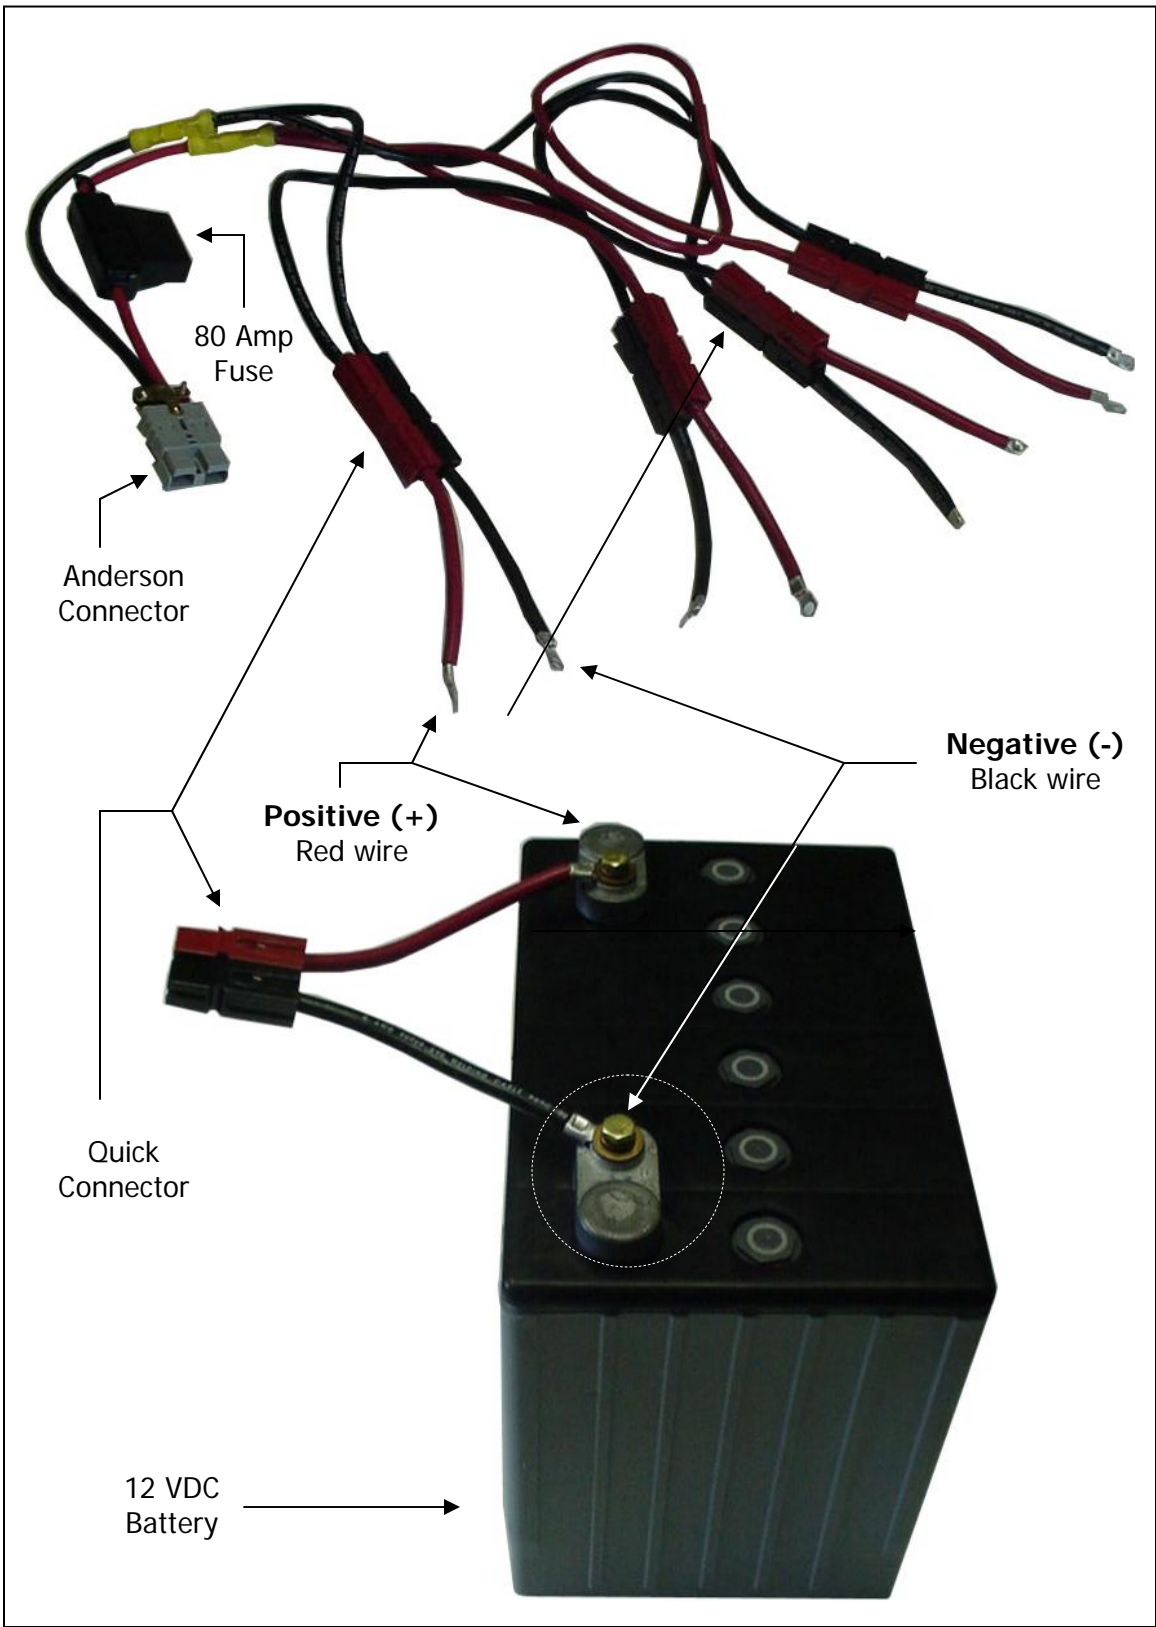

FIGURE 10: AGM battery and quick connector battery cable
- e) Plug the four quick connectors as shown on Figure 10 on page 17.